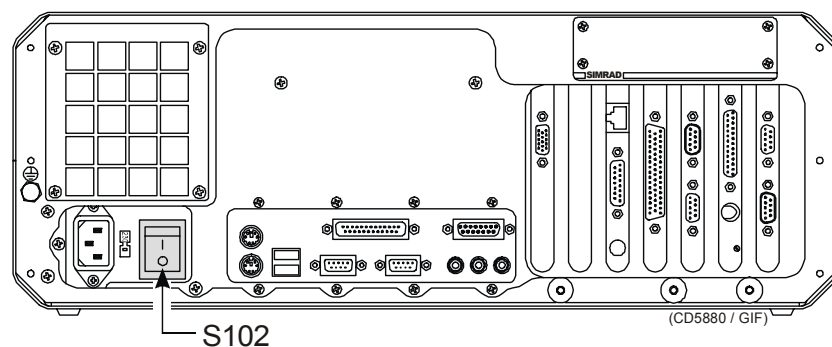

Figure 8 S102 on the rear side of the Processor Unit
- *For location of the switch S102, refer to figure 8 on page 37.*